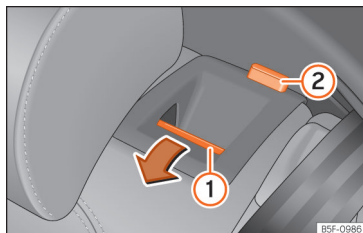

Fig. 67 Rear seat: folding down the backrest.
- Press the unlock button >>> Fig. 67 ① forwards and at the same time fold the backrest down. The rear seat backrest is not engaged when the red marking of the button ② is visible.